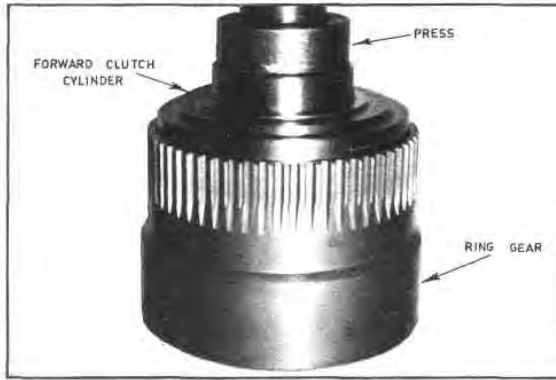

Fig. G62 — Pressing the Forward Clutch Cylinder into Position
21. Place the ring gear and combined parts assembled in steps (12) to (16) on a suitable tool on an arbor press. Then place the forward clutch cylinder, with the combined parts assembled in steps (17) to (20), squarely into the open top of the ring gear. Using a suitable assembly tool, press the forward clutch cylinder into the ring gear until it is firmly seated against the internal clutch snap ring and the snap ring groove in the ring gear is fully exposed (Figure G62).